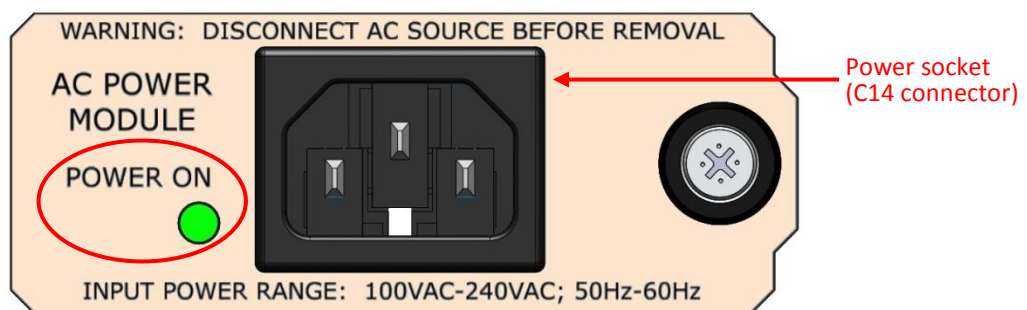
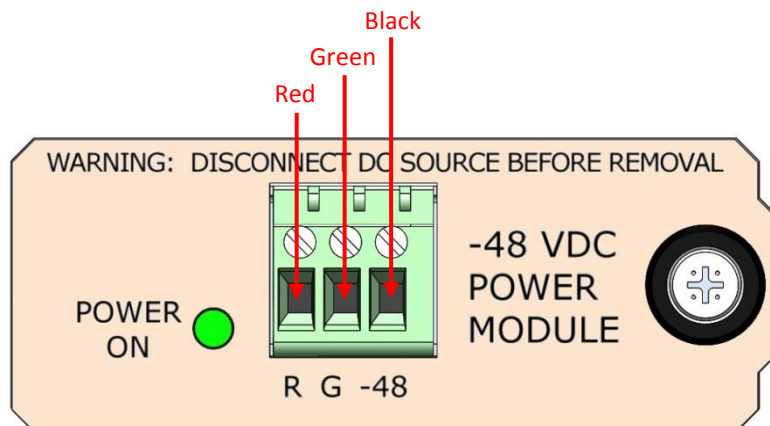

Figure 5 – S-Series OCS AC Power Module
Figure 6 – S-Series OCS -48 VDC Power Module
- **Miscellaneous:** Type 12-24 rack-mounting screws (12), slotted screwdriver (1) for terminal strip screws on -48 VDC power modules (Figure 6).
External power is connected to the switch through the power modules: if AC modules are used, power is delivered via an AC power socket (Figure 5); if -48 VDC modules are used, power is delivered via a -48 VDC terminal strip (Figure 6).
1. Plug the end of the power cable with the C13 (female) connector onto the C14 (male) connector on the AC power module (Figure 5).
Connecting an external power supply to an S-Series OCS configured with -48 VDC power modules (Figure 6) involves more steps than connecting to a switch equipped with AC modules (Figure 5). The following procedure describes how to connect external power to an S-Series OCS configured with -48 VDC power modules:
As shown in Figure 6, the black (negative) cabling wire should be inserted in the -48 (VDC) input, the green-yellow (chassis ground) wire should be inserted in the G (Ground) input, and the red (positive) wire should be inserted in the R (Return/+48 VDC) input.